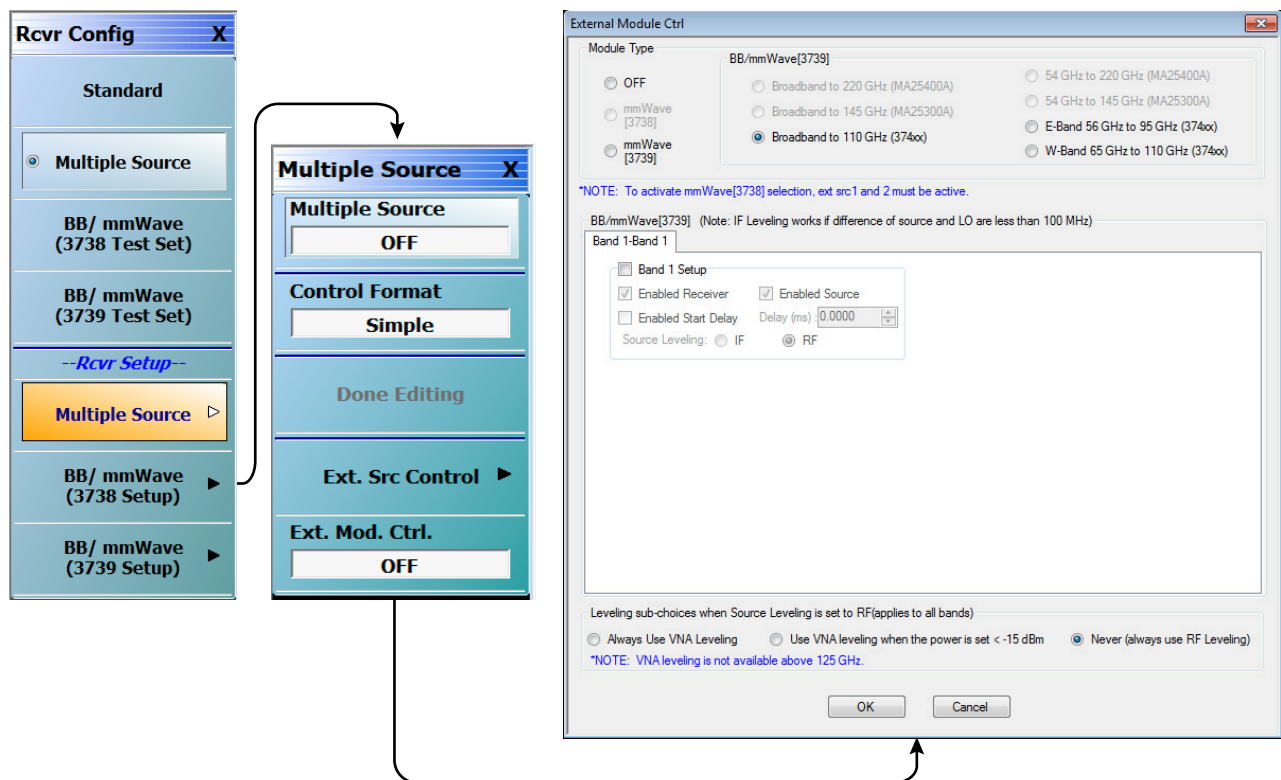

Figure 6-4. Receiver Configuration for Multiple Source
3. From the Application menu select Rcvr Setup (Figure 6-4).